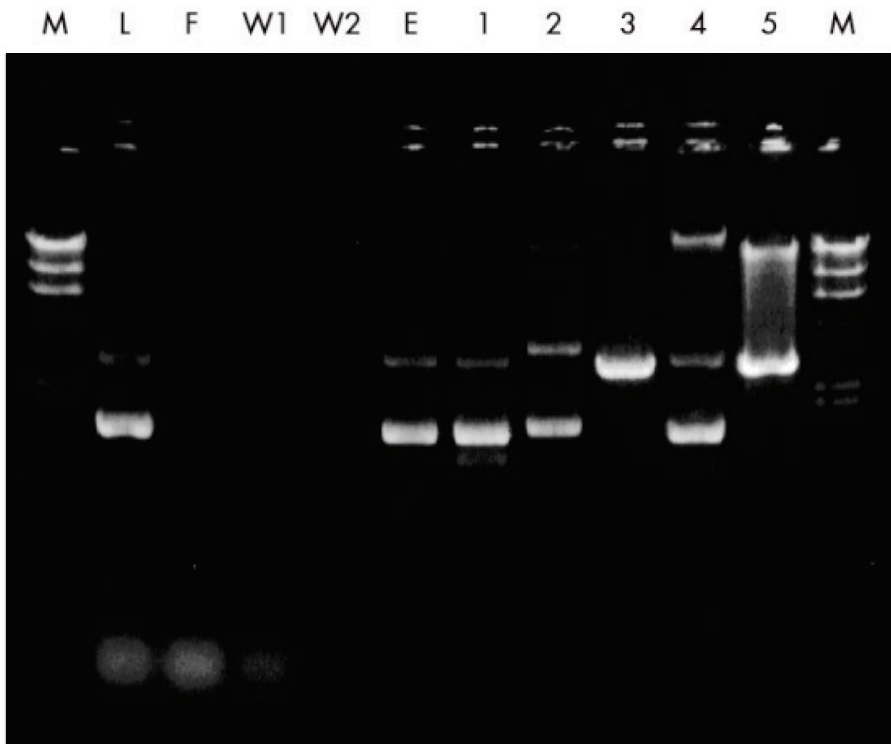

Figure 3. Agarose gel analysis of the plasmid purification procedure.
a) Dimer form of plasmid	Dimers or multimers of supercoiled plasmid DNA are formed during replication of plasmid DNA. Typically, when purified plasmid DNA is electrophoresed, both the supercoiled monomer and dimer form of the plasmid are detected upon ethidium bromide staining of the gel (see Figure 3, page 39). The ratio of these forms is often host dependent.
b) Plasmid has formed denatured supercoils	This species runs faster than closed circular DNA on a gel and is resistant to restriction digestion (see Figure 3, page 39). Do not incubate cells for longer than 5 min in Buffer P2. Mix immediately after addition of Buffer P3.
Run 2 μL of each sample on a 1% agarose gel* for analysis of the fractions at each stage of the plasmid purification procedure. Figure 3 shows an analytical gel of the different fractions, together with examples of problems that can arise at each step. If you find that you have a problem with a particular step of the protocol, turn to the hints in the relevant section of the